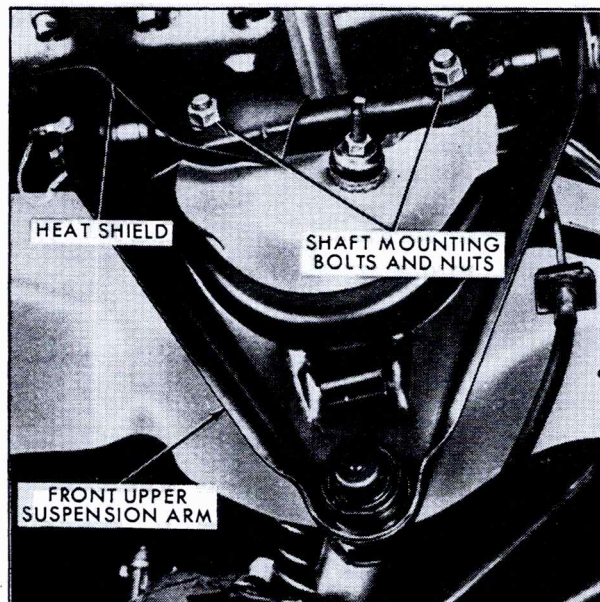

Fig. 3-17 Upper Arm and Shaft Assembly Installed
5. Remove locknuts and shaft mounting bolts at frame tower, Fig. 3-17, and remove upper suspension arm and shaft assembly with heat shield attached.
1. Position upper arm assembly on frame tower with heat shield positioned over rear bushing and install mounting bolts and locknuts, Fig. 3-17. Tighten bolts to 60 foot-pounds.